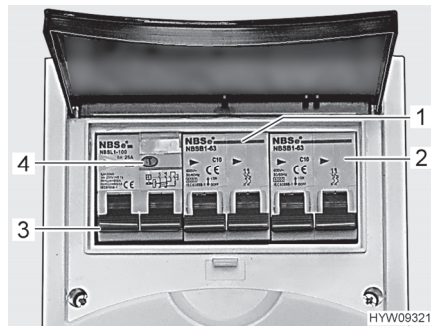

Fig. 146 Safety cutout and FI-switch (230 V fuse box)
A fault current protection switch (FI-switch) (Fig. 146,3) in the fuse box protects the complete vehicle from fault current (30 mA).
The downstream safety cut-out (10 A) (Fig. 146,1) secures the 230 V sockets, the transformer/rectifier, the auxiliary charging unit and the refrigerator.
For vehicles with special equipment, e.g. roof air conditioning unit, the device is protected by an additional safety cut-out (16 A) (Fig. 146,2).
- When the vehicle is connected to the 230 V power supply, press the test button (Fig. 146,4). The fault current protection switch (FI-switch) must be activated.